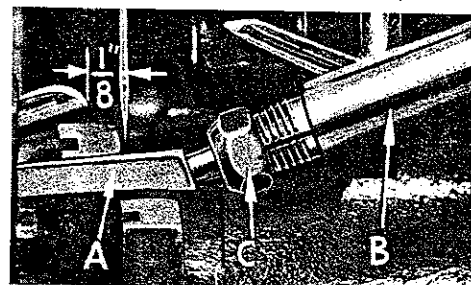
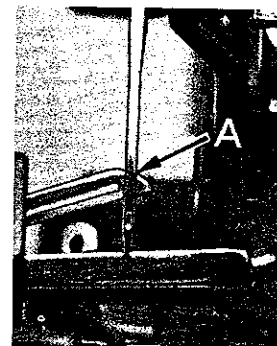

Fig. 5
Fig. 7
At this point, insert lower looper (A, Fig. 5) into bar (B). With lower looper at left end of its stroke, set looper point  $1/8$  inch from center of needle (Fig. 5), using looper gauge No. 21225- $1/8$ , on Styles 39500 FS, FT, FU, GT and JP. On Styles 39500 GD and GL, with lower looper at left end of its stroke, set looper point  $1/16$  inch from center of left needle, using looper gauge No. 21225- $1/16$ . Now assemble differential (front) feed dog.
Now finish lower looper adjustment. As lower looper moves to the right, its point should be set into the needle scarf (A, Fig. 7) until the needle springs forward from rear guard surface another .002-.004 inch. Tighten nut (C, Fig. 5) securely.